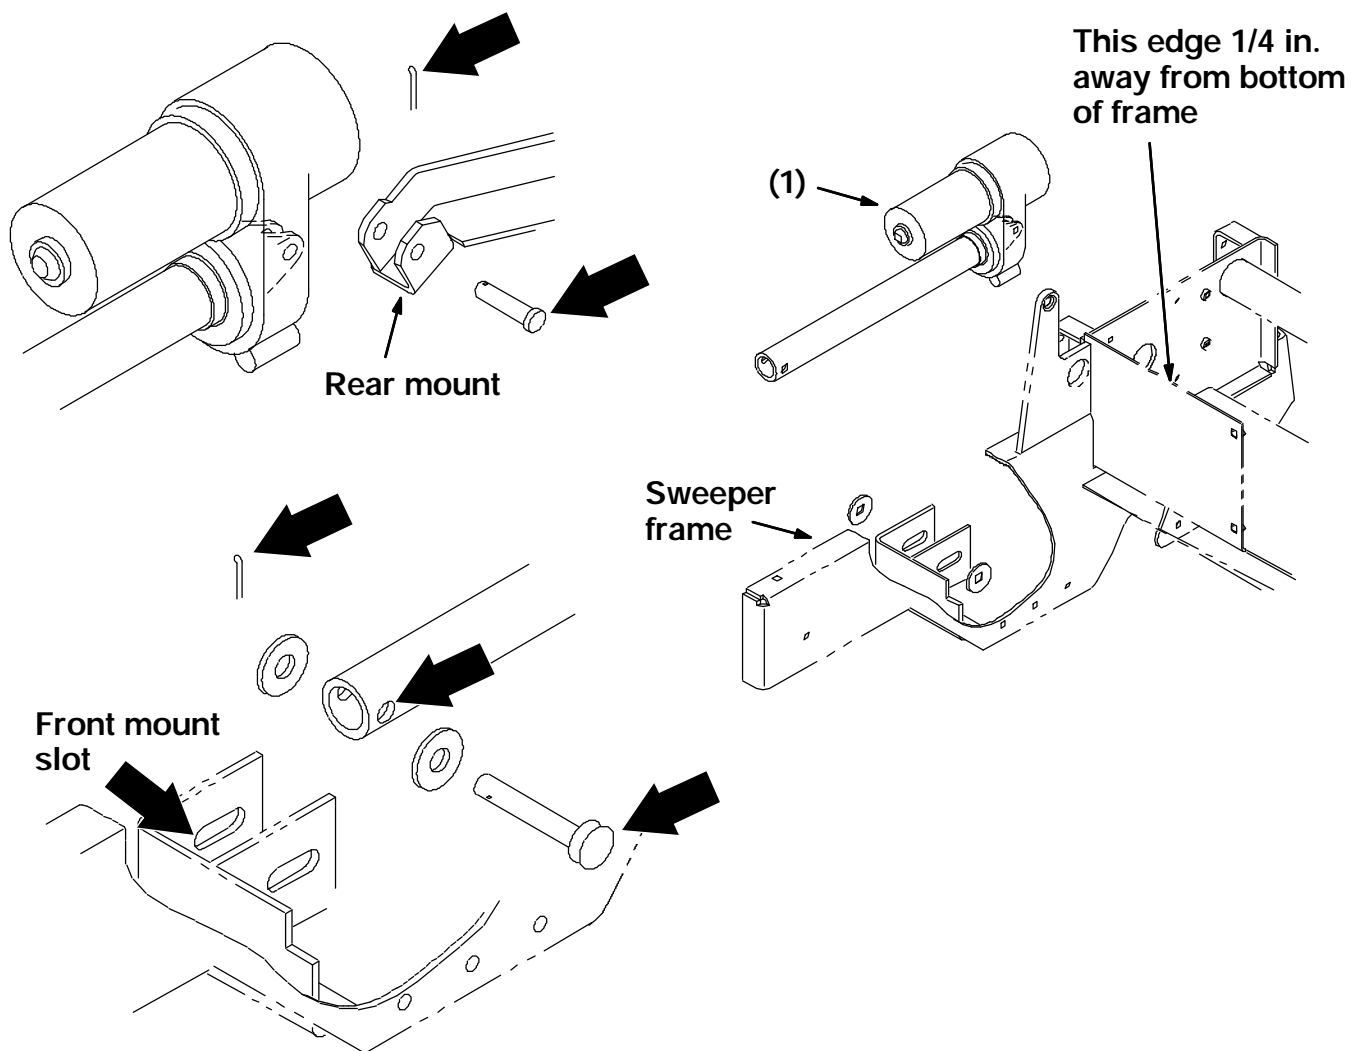

FIG. 1- Sweeper Assembly
(Refer to FIG. 1)
5. Remove the cotter and clevis pins holding the lift actuator to the machine frame and sweeper frame. Remove the actuator. (Refer to FIG. 1)
6. Lift the sweeper assembly up until it is within 1/4 in. of the bottom of the machine frame. Install blocks under the assembly frame. (Refer to FIG. 1)
7. Position the new actuator on the sweeper frame in the same orientation as the old one. Place the tube end in the sweeper first. Do not install the clevis pin yet. (Refer to FIG. 1)
8. Reconnect the back of the head lift actuator to the main machine frame. Reconnect the actuator to the main electrical harness. (Refer to FIG. 1)
9. Turn on the machine and extend the actuator all the way out. Screw the tube in or out until the mount hole in the tube lines up with the top end of the mounting slot on the sweeper frame. Install the clevis and cotter pin. Remove the blocks from under the frame. Lower the assembly. (Refer to FIG. 1)